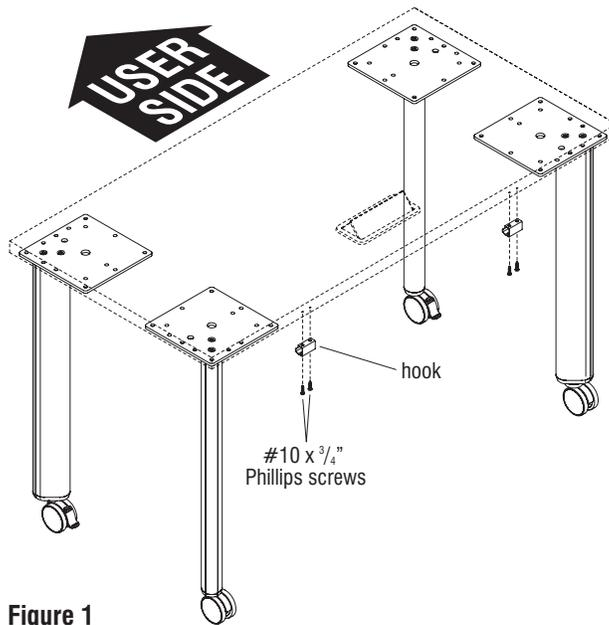

Figure 1
1. Position one hook underneath the back, non-user side of the tabletop at the pre-drilled location as illustrated in Figure 1 & Detail A. Orient the hook to face the user side of the table. Align the mounting holes of the hook with the pre-drilled holes underneath the tabletop and secure using two #10 x 3/4” Phillips screws. Repeat this process to secure the remaining hooks to the table (Figure 1 & Detail A).